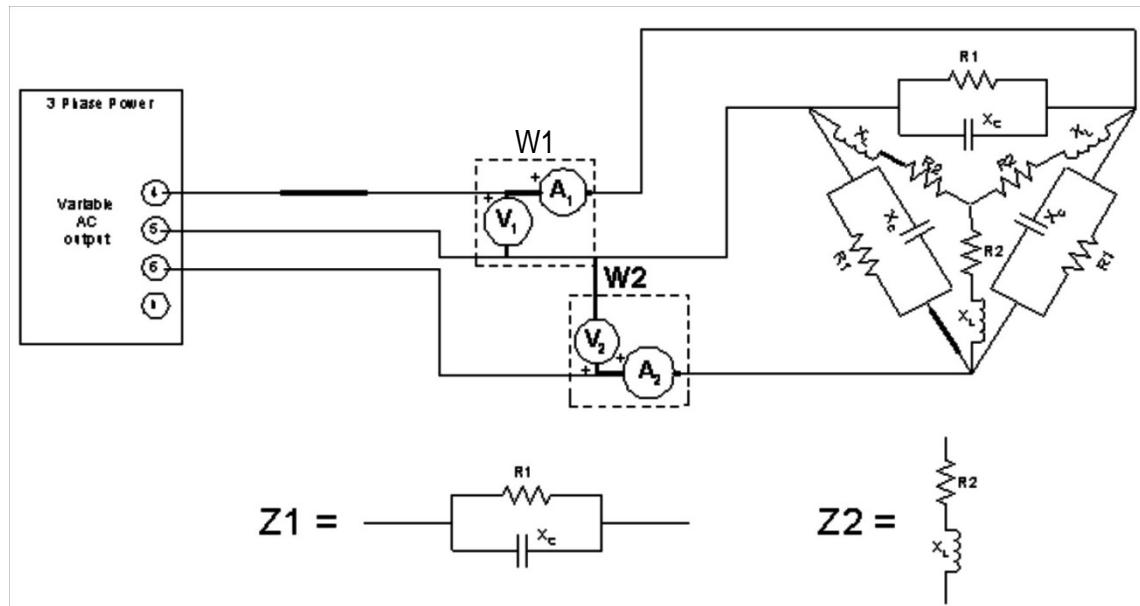

FIGURE 3.12
- Step 1: Connect the circuit shown in Figure 3.12.  $R_1=R_2=300\Omega$ 7  $X_C = 400\Omega$ , and  $X_L=300\Omega$ . Use the variable AC output of the power supply as your power source. Adjust the line voltage to 120Vac.